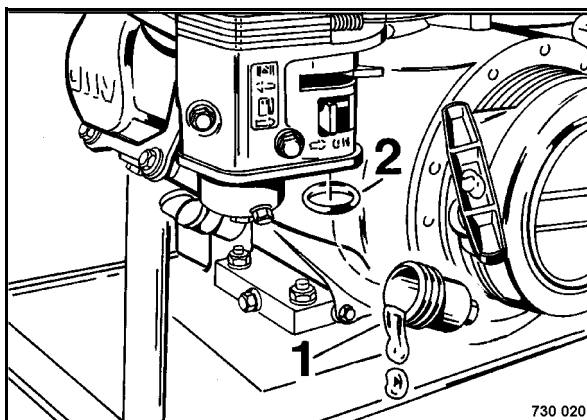

Fig. 47
- Close the fuel cock, unscrew fuel sludge filter 1 (Fig. 47) and wash it out with gasoline.
- Turn the fuel sludge filter in tightly and mind the O-ring (2).